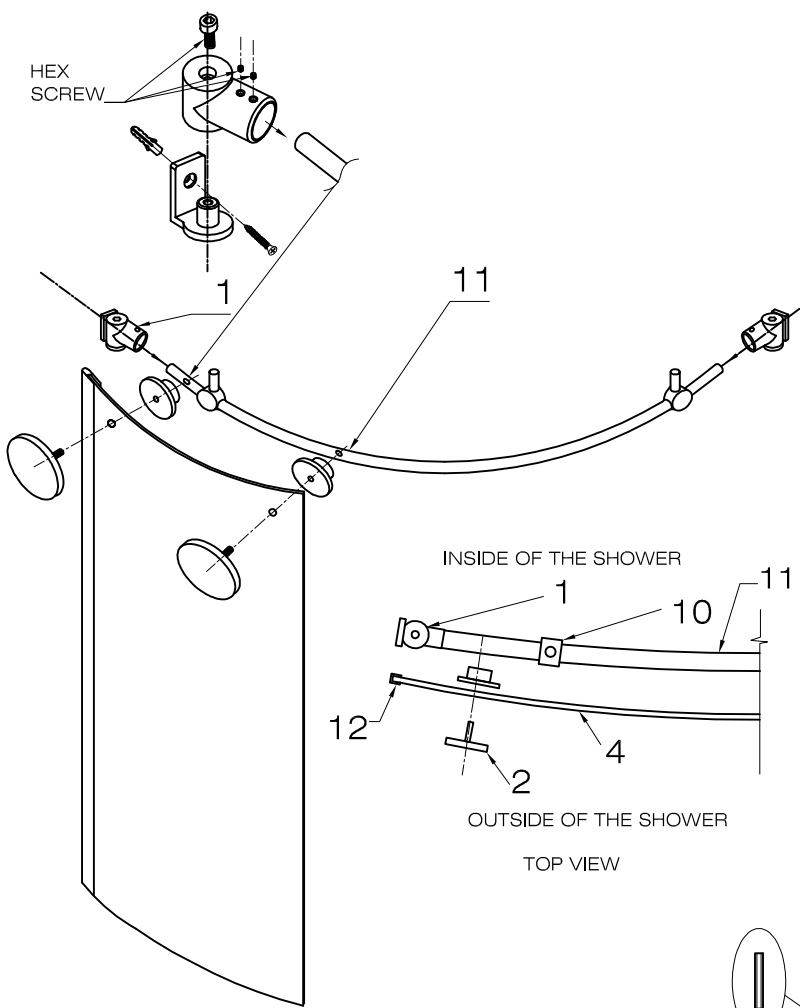

FIG. 4
4. Place structural rail (11) inside the wall mount bracket (1). Tighten two hex screws on the bracket. See FIG. 4, page 6. Repeat this step for another bracket.
5. Screw fixed panel (4) to the structural rail (11) with fixed panel holders (2), (FIG. 4, page 6).
10. Mark location of the fixed panel bottom clip (7) and bottom door guide (8) on the floor.
11. Remove front fixed panel (4) from the position in the opening.
13. Place wall mount bracket plate to the wall. Mark holes on the wall for mounting screw. Drill hole, place anchor (17) inside.
14. Place wall mount bracket plate (1) to the wall and screw plate with 2" screw (14).
15. Mark holes on the floor for fixed panel bottom clip (7) and bottom door guide (8) .
16. Remove fixed panel bottom clip (7) and bottom door guide (8) from the position on the floor, drill holes, place anchors (16) inside.
17. Screw fixed panel bottom clip (7) and bottom door guide (8) to the floor with 1 1/8" screw (15).
19. Screw wall mount bracket body (1) to the wall mount bracket plate with the hex screw from the top of the bracket.
20. Tighten the hex screw of the wall mount bracket body (1) to the structural rail, see FIG. 4.